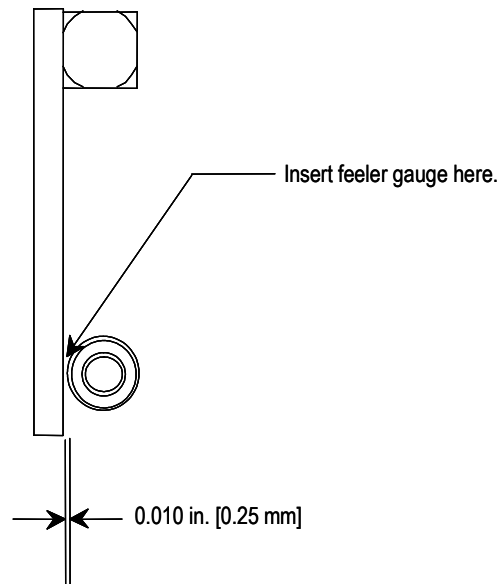

Figure 4.24 – Gauging Mechanical Latch Location
3. With the contactor lying on its back, insert an .015 in. (0.38 mm) feeler gauge between the latch roller and the armature plate as shown in Figure 4.24. Tighten the mounting bolts (do not overtorque 1/4 inch nuts or 5/16 inch bolts).